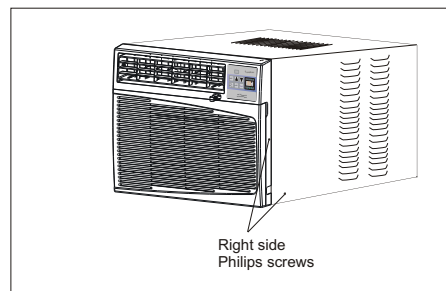

Fig. 1
A. Remove total of (4) Philips screws securing the chassis to the cabinet. There are (2) screws on each side. The set of screws closest to the front of the unit secure the front panel to the cabinet. The set of screw closest to the rear of the unit secure the cabinet to the chassis. See (Fig. 1).
B. Secure the front grille to the cabinet using the Philips screws removed earlier (Fig. 1).